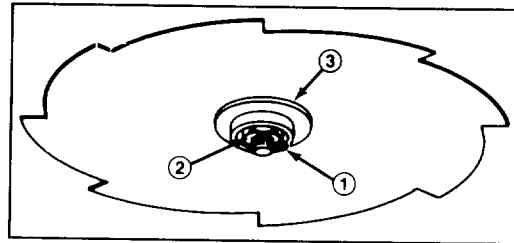

Figure 3
## INSTALLING OPTIONAL CUTTER BLADE (Figs. 3 & 4)
5. Insert cotter pin through hole in shaft and wrap ends around shaft (Fig. 3).
To prevent blade from loosening and causing possible personal injury, insert a new cotter pin through hole in shaft and wrap ends around shaft (Fig. 3).